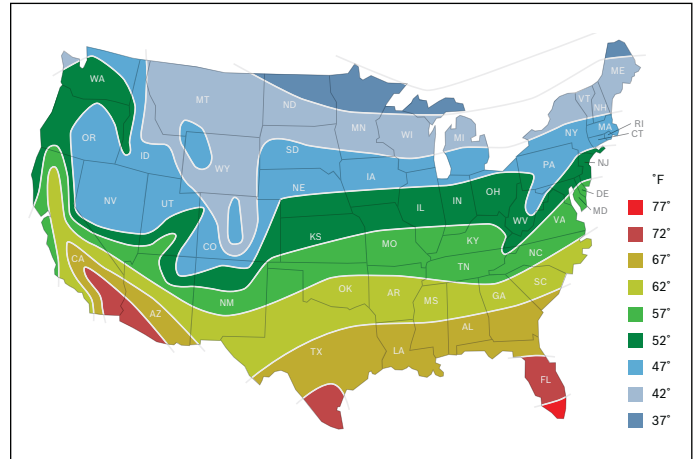

Figure 1 Average ground water temperatures
- ▶ Size the pump according to the pressure drop curve of your Greentherm model (fig. 1 below) and the loop pressure drop tables.